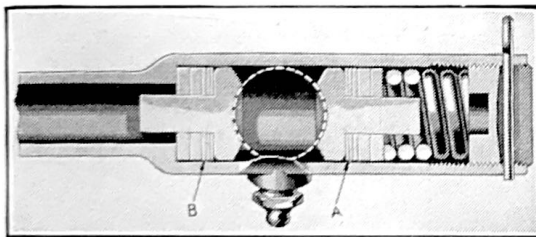

Figure 41
thin shims from rear pack (A), Fig. 41, at the rear of the drag link and add them to front pack (B).
The Drag Link is of the adjustable bearing type. Shim packs are provided at the front and rear ends of the rear socket, see Fig. 41.